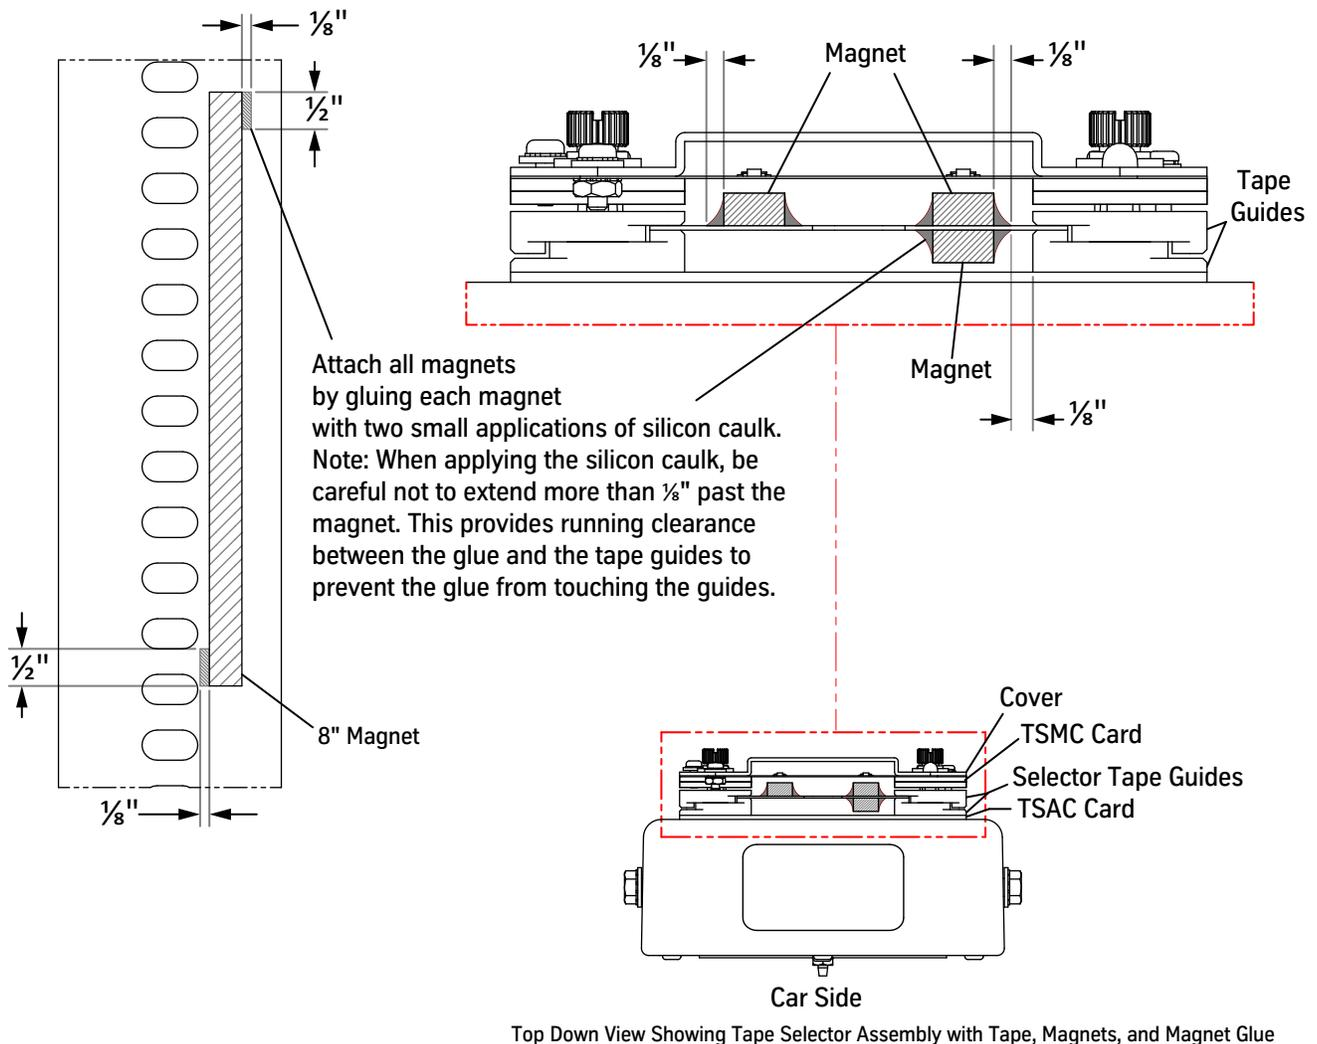

Figure 10 - Glue the Floor Magnets
3. When the floor leveling magnet placement is correct, attach each magnet with two small beads of silicon caulk. See Figure 10.
7. Attach each magnet in its final location with two small beads of silicone caulk. See Figure 10 on page 2-34.